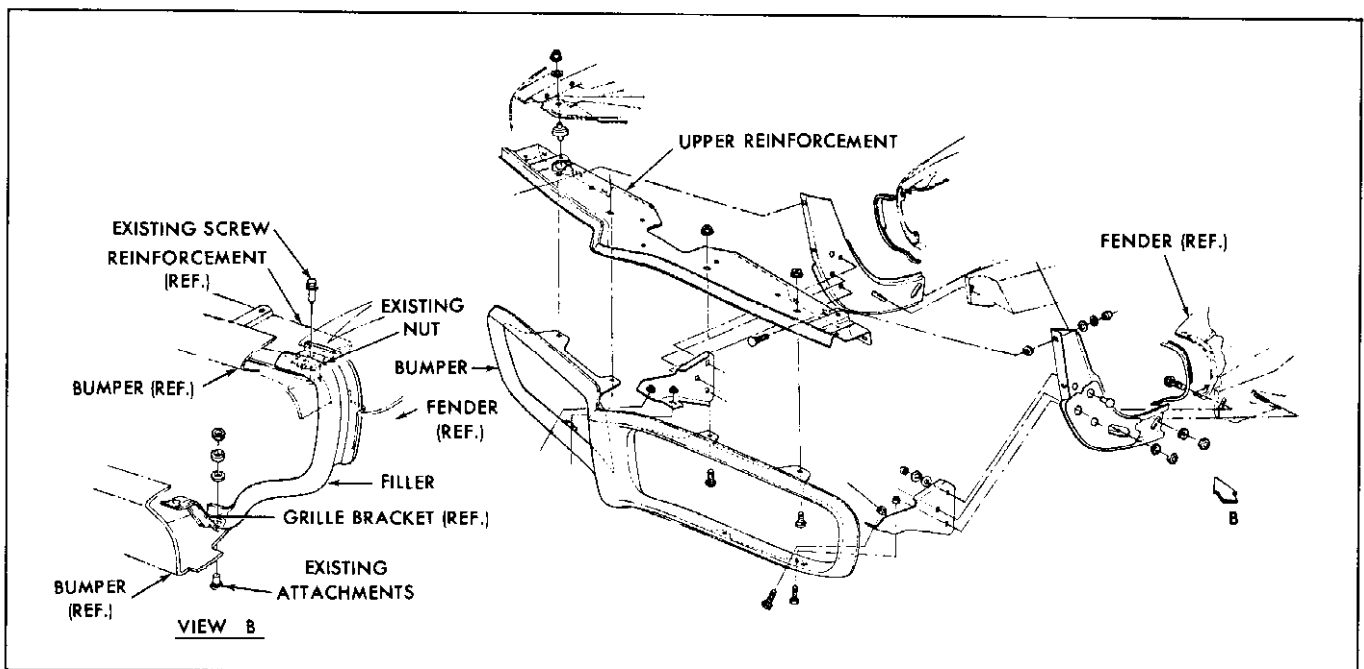

Fig. 14-1 Front Bumper
2. Remove radiator support to fender gussets using J 22413 (see note). (Fig. 14-1).